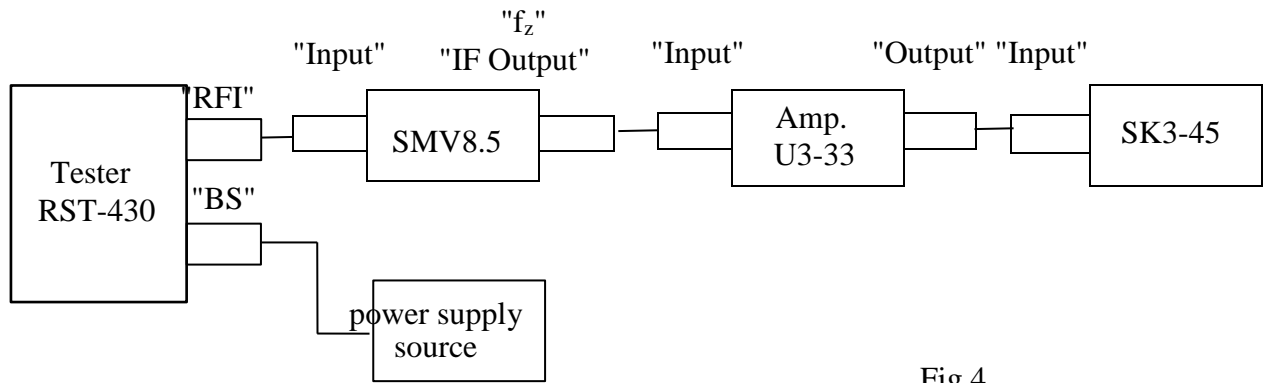

Fig.4
6.3.3 Determination of the error of setting of the HF signals frequency deviation is performed according to the diagram shown in figure 4.